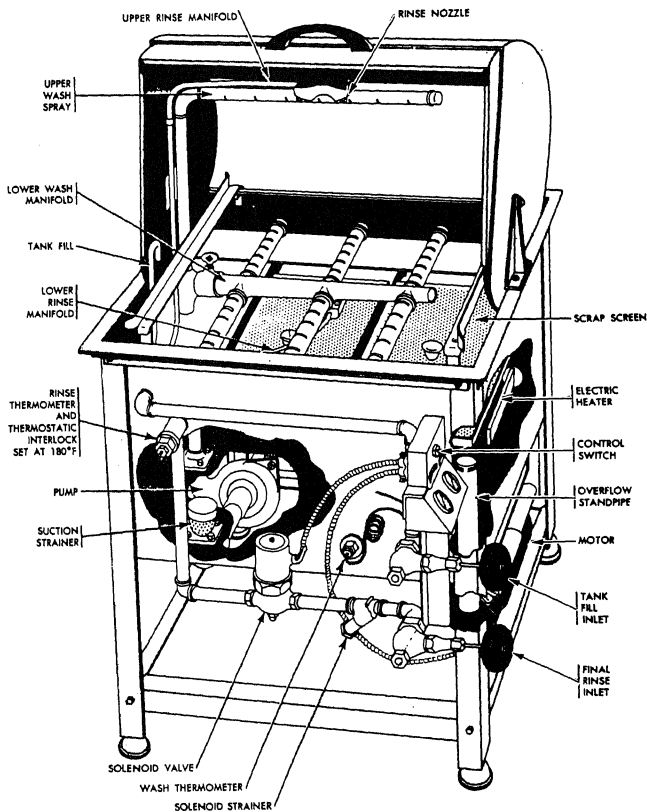

Figure 6-19.—Typical semiautomatic single-tank dishwashing machine.
**SINGLE-TANK METHOD.**—Single-tank machines (fig. 6-19) are used only on small ships where because of space and weight considerations larger models are not feasible.